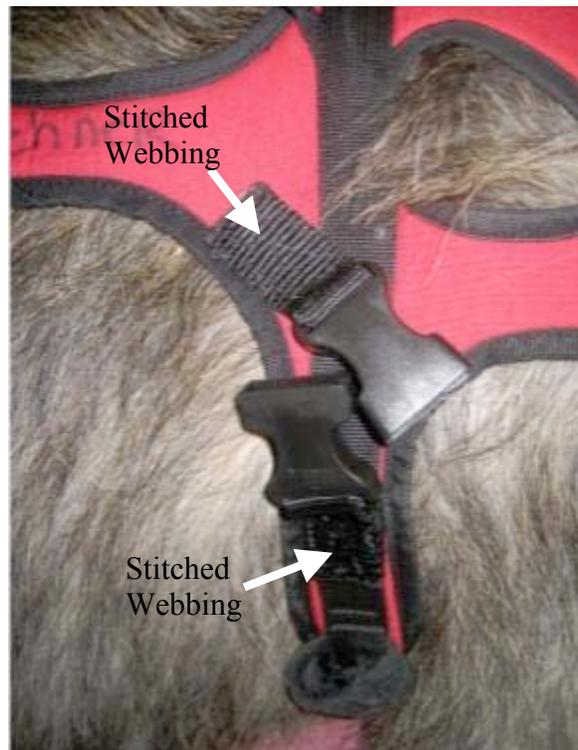

FIGURE 36 – Orientation of the Buckles for the Chest Harness
To balance the dynamic forces placed on the front of the wheelchair during walking, four (4) plastic side snap buckles must be adapted to the harness. Figure 36 illustrates the necessary buckle orientation on the chest harness and Figure 37 shows the approximate location of the buckles on the chest harness. One buckle should be oriented upward and the other downward as shown. Once the proper position of each buckle is identified, attach the receiving end of the buckle to the harness using a section of nylon webbing routed through the buckle end and stitched with heavy-duty thread through the harness (Figure 35). An “X” patterned stitch is recommended for attaching the buckles to the harness. (Note: sewing through the harness material is rather difficult and requires a robust thimble and much patience.)